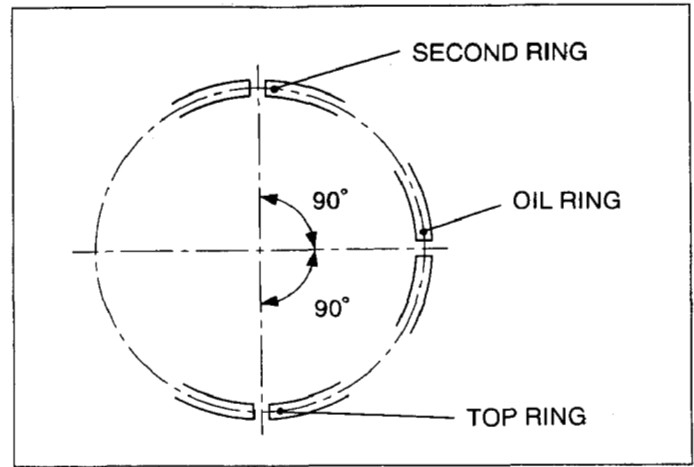

Fig. 5-28
- (1) Before installing the piston and connecting rod in the cylinder, oil the piston, piston rings and cylinder wall.
- (2) Stagger the piston ring gaps 90° apart around the piston. (See Fig. 5-28.)